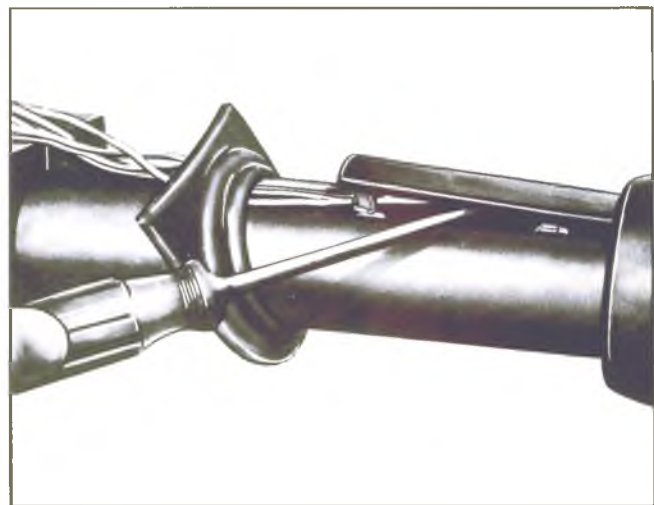

Fig. 83—Removing Wiring Harness Protector
5. Pry the wiring harness protector out of the column retaining slots as shown in Figure 83.